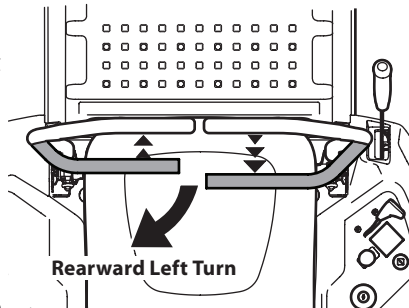

Figure 32
1. To turn to the left while traveling in reverse, move the left drive control lever forward of the right drive control lever. See Figure 32.